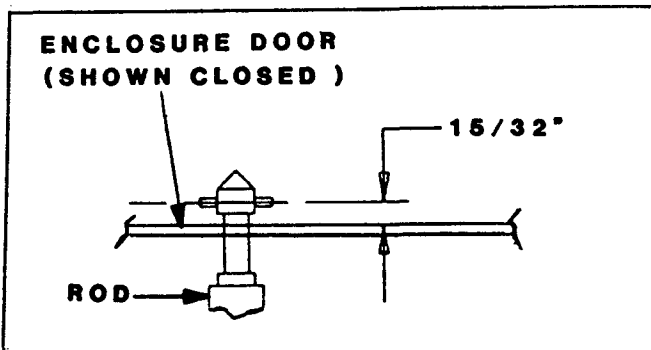

Figure 7. OPERATING ROD REPOSITIONING
8. Turn out operating rod so that it extends 15/32" beyond closed door. See Figure 7.